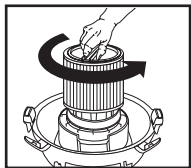

FIGURE 22
42. To remove the filter for cleaning, again hold the tank cover and turn the filter retainer counter-clockwise to loosen and remove. **FIGURE 22.**